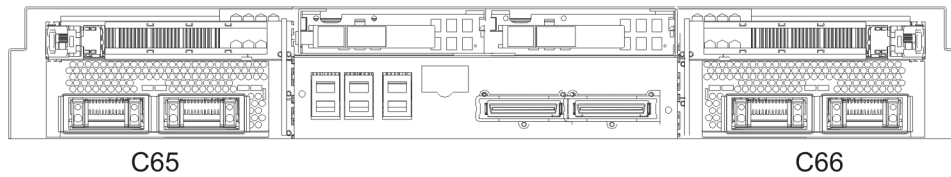

Figure 59. p5-575 server cage showing GX slots
- Figure 59 on page 325 for node slot locations